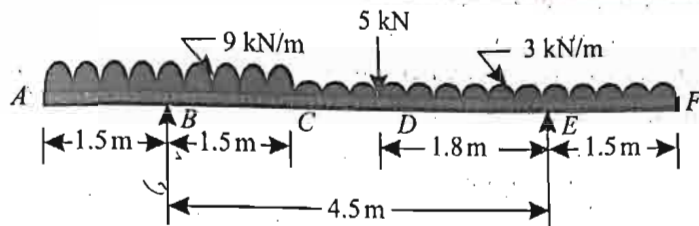

Fig. 9.15.
5. A beam $ABCDEF$ of 7.5 m long and span 4.5 m is supported at B and E . The beam is loaded as shown in Fig. 9.15.